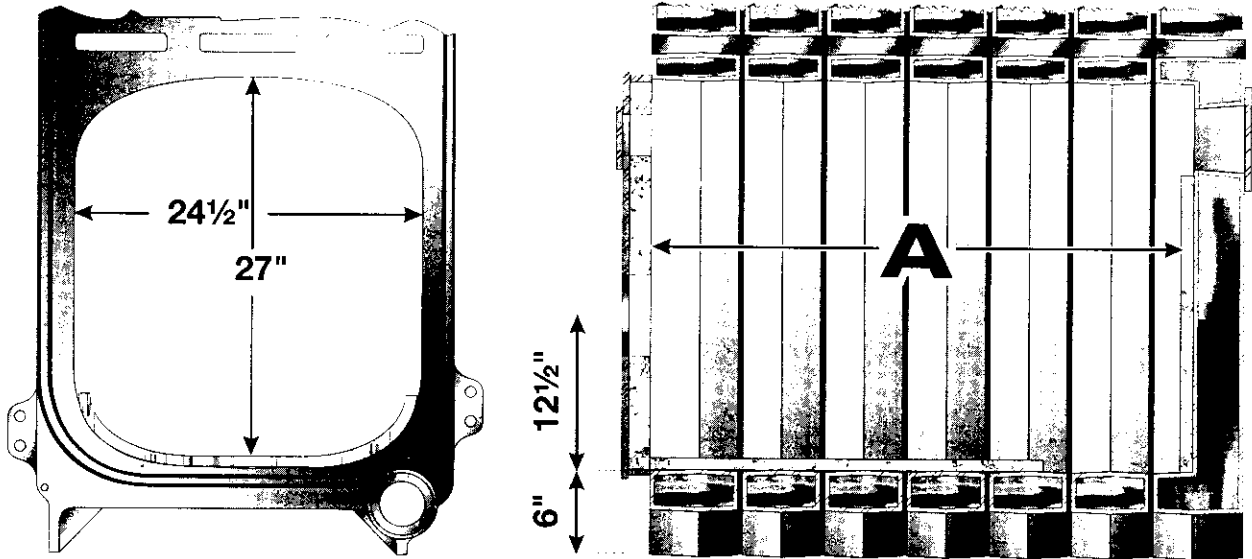

Figure 26: Combustion Chamber Layout – See Table 13 for Dimensions
3. See Figure 26 and Table 13 for combustion chamber dimensions.